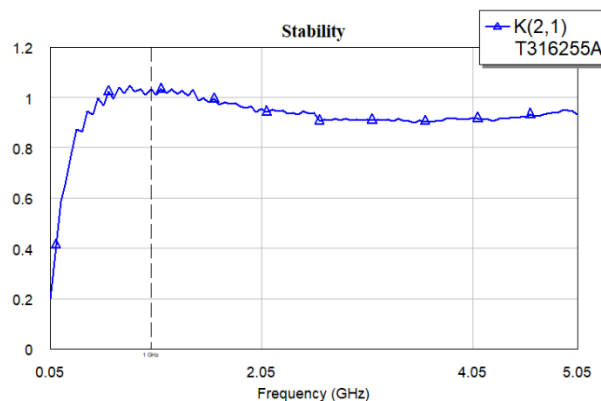

Fig. 1 Stability factor of the AT-31625 transistor.
- The best resulting parameters can be obtained using absolutely stable transistors; absolute stability corresponds to $k \geq 1$. In the case of your transistor, choose a design frequency where the condition $k \geq 1$ is fulfilled. In our example (the AT-31625 transistor), the 1 GHz design frequency was chosen, as shown in Fig. 1.